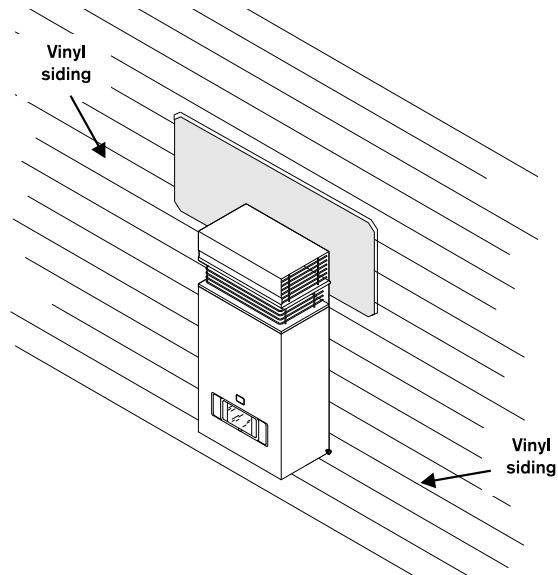

Fig. 7
The AQ125 BO is design certified for installation directly on a combustible wall. (see 3.4 Mounting installation). For installation on vinyl siding see Fig. 7. Keep the area below the heater free of combustible material.
**Warning:** Do not mount heater directly to vinyl siding. With vinyl siding surfacing, a 6' x 4' area of the siding must first be covered or replaced with wood or other non-plastic made material. See Fig. 7.